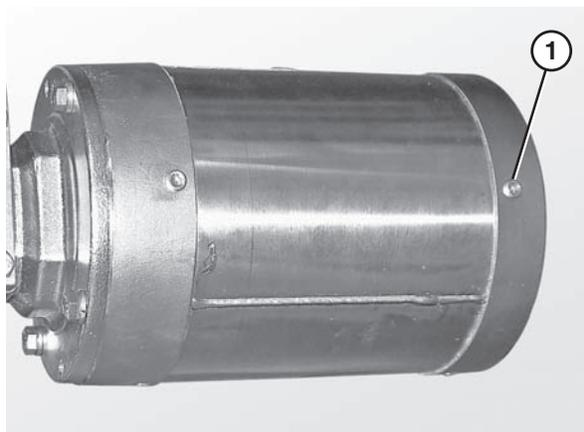

Figure 10
7. Remove the drainage plugs (Figure 10, item 1) on the bottom side of the motor.